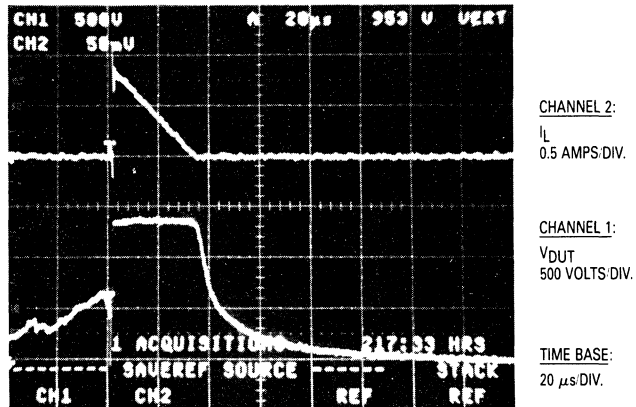

Figure 8. Current-Voltage Waveforms
The oscilloscope picture in Figure 8, shows the information obtained for the MUR8100E (similar die construction as the MUR1100E Series) in this test circuit conducting a peak current of one ampere at a breakdown voltage of 1300 volts, and using Equation (2) the energy absorbed by the MUR8100E is approximately 20 mjoules.